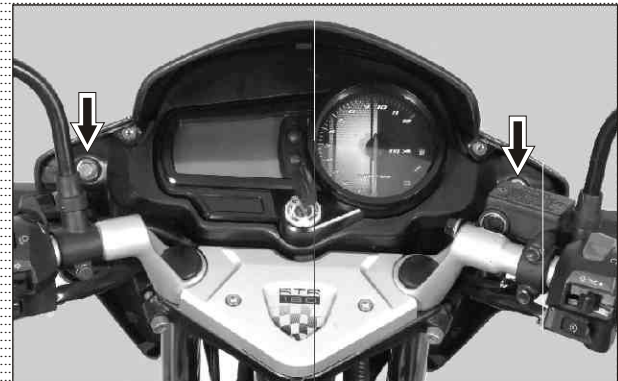

Fig. 5.40
- Remove hexagonal screw (M6x20 - 2 nos.) from the housing head lamp front top mounting. (Fig. 5.40)